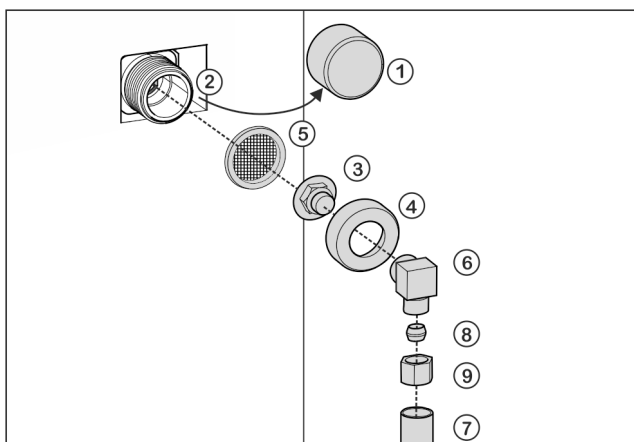

Fig. 58
- ▶ Remove cap *Fig. 58 (1)* from solenoid valve *Fig. 58 (2)*.
- ▶ Insert coupler *Fig. 58 (3)* into union nut *Fig. 58 (4)*.
- ▶ Insert the filter *Fig. 58 (5)* with the recess pointing down towards the coupler *Fig. 58 (3)*.
- ▶ Screw the union nut *Fig. 58 (4)* by hand onto the thread of the solenoid valve *Fig. 58 (2)* until it is firmly in place.
- ▶ Screw on angle piece *Fig. 58 (6)*.
- ▶ Connect the water pipe *Fig. 58 (7)* (e. g. 1/4" OD copper pipe) with the clamp ring *Fig. 58 (8)* and nut *Fig. 58 (9)* to the elbow connector *Fig. 58 (6)*.
- ▶ If necessary: Fasten the water pipe *Fig. 58 (7)* to the housing with the guide clip.
- ▶ Put angle piece *Fig. 58 (6)* to one side.
- ▶ Connect the water pipe *Fig. 58 (7)* (e. g. 1/4" OD copper pipe) with the clamp ring *Fig. 58 (8)* and nut *Fig. 58 (9)* to the coupler *Fig. 58 (3)*.